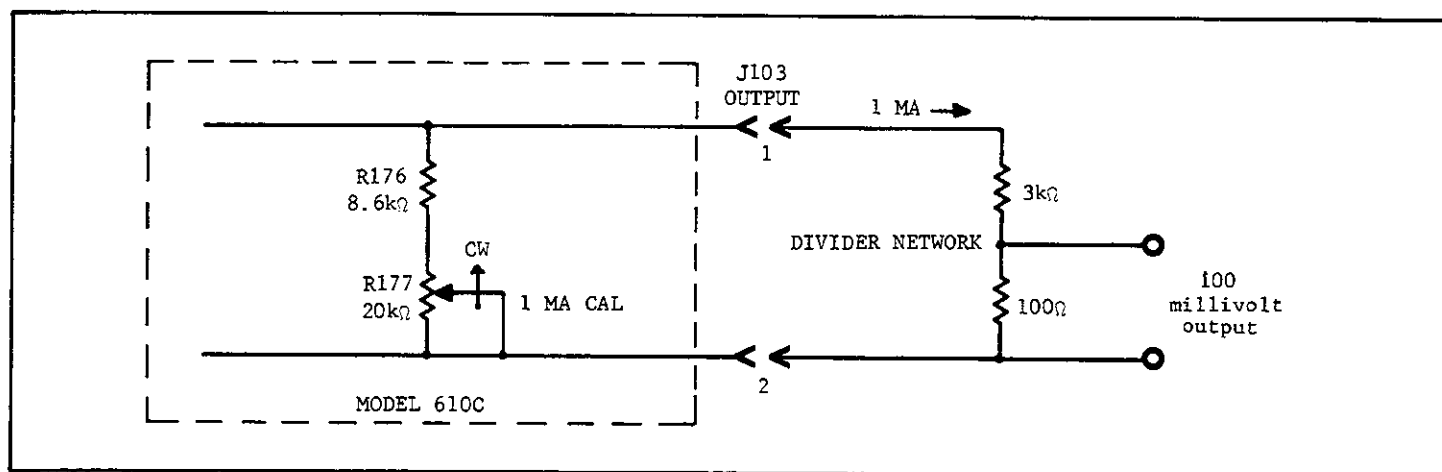

FIGURE 9. Recorder Output, 100 mV Divider Network.
b. Servo Rebalance Recorder Output. For some types of recorders a divider network is required to provide a 50mV or 100mV full scale output. In this application the LMA-3V switch should be set to LMA. The divider resistors should be selected to provide a voltage suitable for the recorder in use. A typical example is shown in Figure 9. The full voltage output is 3V. Therefore, the total divider resistance should be 3000 ohms. The voltage drop across the 100Ω resistor is then adjusted for 100mV by adjusting the LMA CAL control.